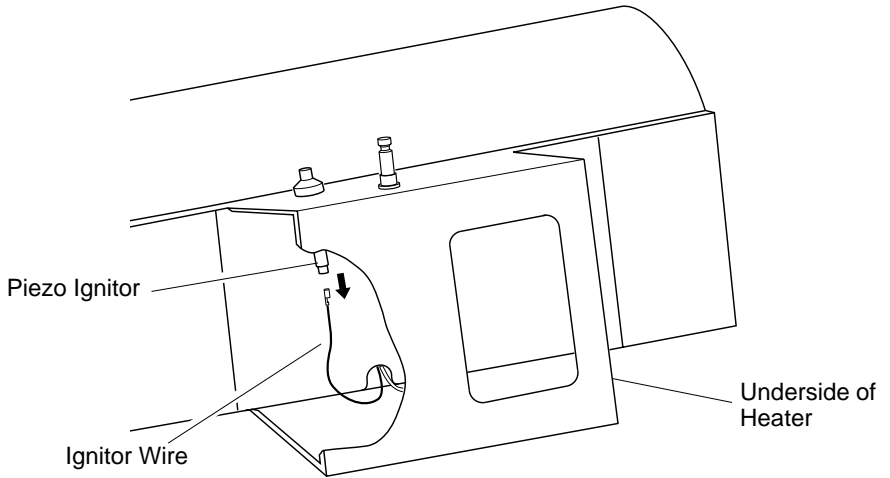

Figure 16 - Removing Ignitor Wire from Piezo Ignitor
2. Remove black ignitor wire from piezo ignitor. Access ignitor wire through underside of heater base (see Figure 16). Push wire up through notch in filler panel.